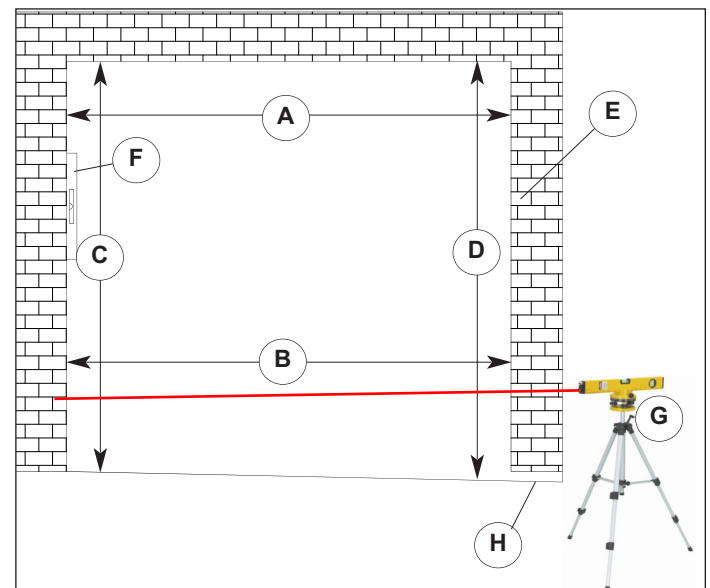

Figure 4.1
1. Measure Door Opening Width at the top (A).
2. Measure Door Opening Width at the floor (B).
3. Measure Door Opening Height at left side (C).
4. Measure Door Opening Height at right side (D).
5. Dimensions from Steps 1 - 4, Figure 4.1, should be within $\pm 1/2"$ [13] of the dimensions listed on the serial number label. If the measurements do not agree, STOP! Contact your **RITE-HITE DOORS, INC.** representative.
6. Surface **MUST** be flat, smooth and collinear with opposite side (E).
7. Using a 6' [1829] carpenter's level (F), verify that the door jambs and header are plumb and perpendicular.
8. Using a laser level (G), place a mark where the laser is sighted on each side of the jamb to determine if the floor is level. Measure both sides from floor to the mark and if the floor is not level to within $1/8"$ [3], shim under the sideframe that will be located on the "Low Side" (H) (greatest measurement) of the door opening.